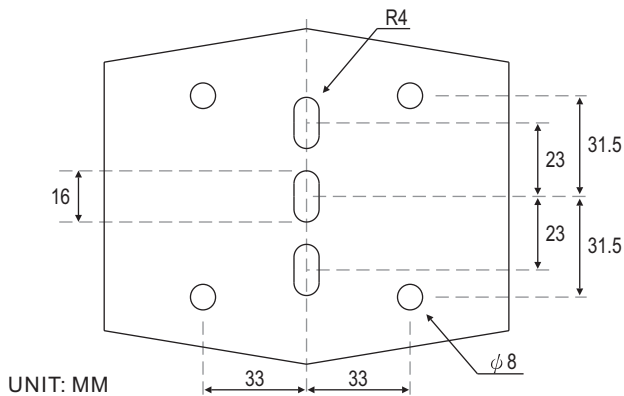

Figure 3
2. To adjust pan limit (Figure 2), loosen screws securing both stoppers (Figure 2) and (Figure 3) to unit. Slide stoppers around unit to desired locations and secure by tightening screws.